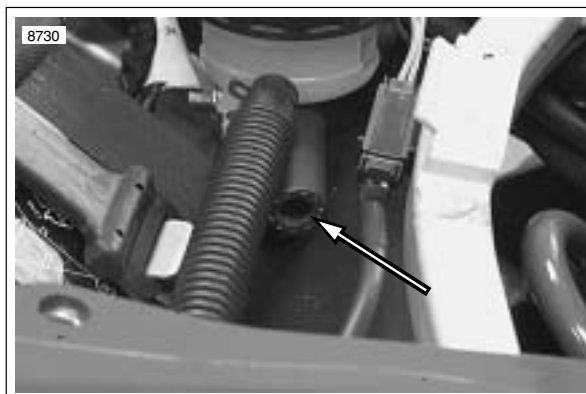

Figure 3-39. Transmission Vent Line
6. See Figure 3-39. Route transmission vent line up through left side of frame exiting under the rear master cylinder under the rider's seat. Install two tie wraps to secure transmission vent line in place. Inspect vent line to verify space between vent line and rear exhaust.